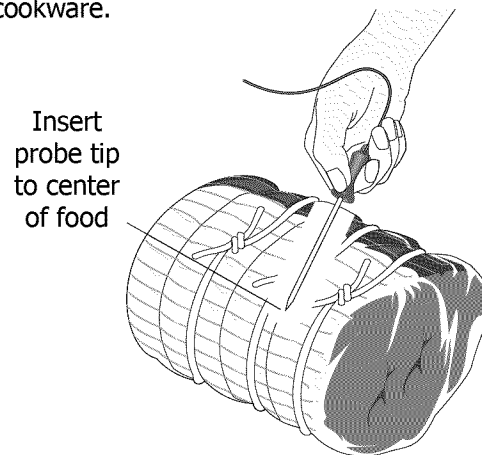

Figure 2: Probe in thickest area of food
- Insert the probe so that the probe tip rests inside the center of the thickest part of the meat or food (see figure 2). For best results, do not allow the probe temperature sensor to contact bone, fat, gristle, or the cookware.